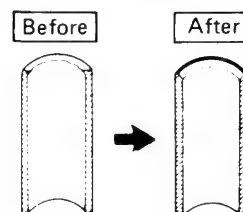

Fig. 22
- Remove burrs at the end of the copper tube with a reamer or a file. This process is important and should be done carefully to make a good flare. Fig. 22